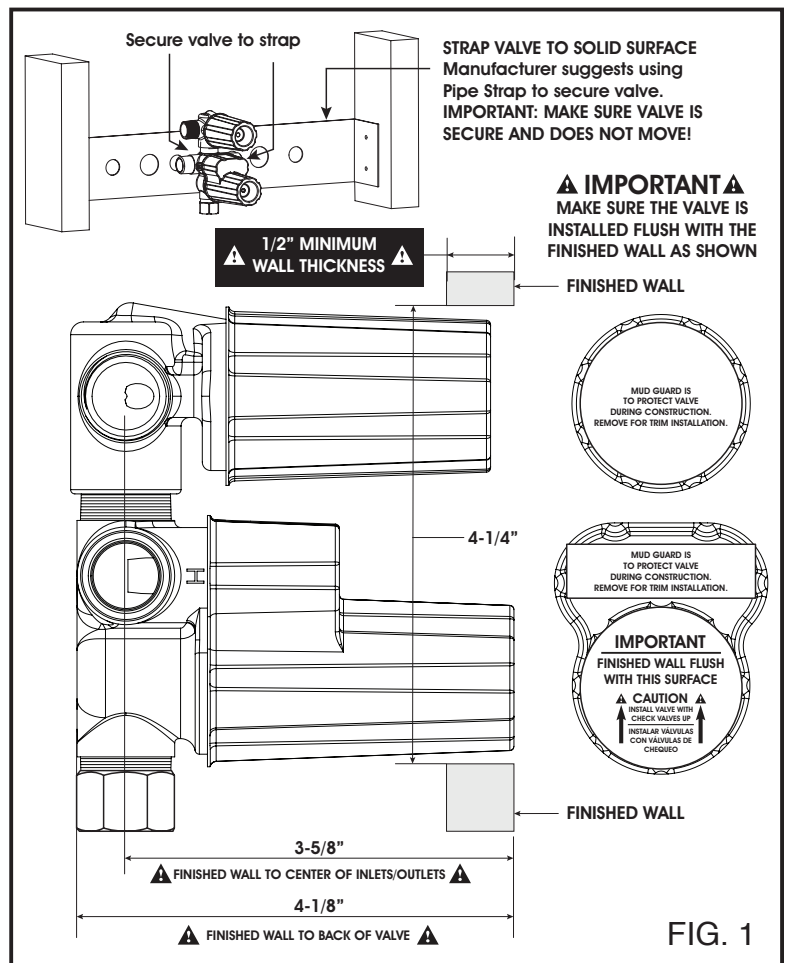

FIG. 1
1. Strap securely into place using plumber supplied pipe strap. FIG. 1. Connect piping to 1/2" NPT female connections or 1/2" slip fit.
2. The depth of rough-in should account for thickness of wall materials to be used, combining thickness of wall board and finished wall materials. It is CRITICAL TO PLACE THERMO VALVE MUD GUARD FLUSH WITH THE FINISHED WALL. FIG. 1.